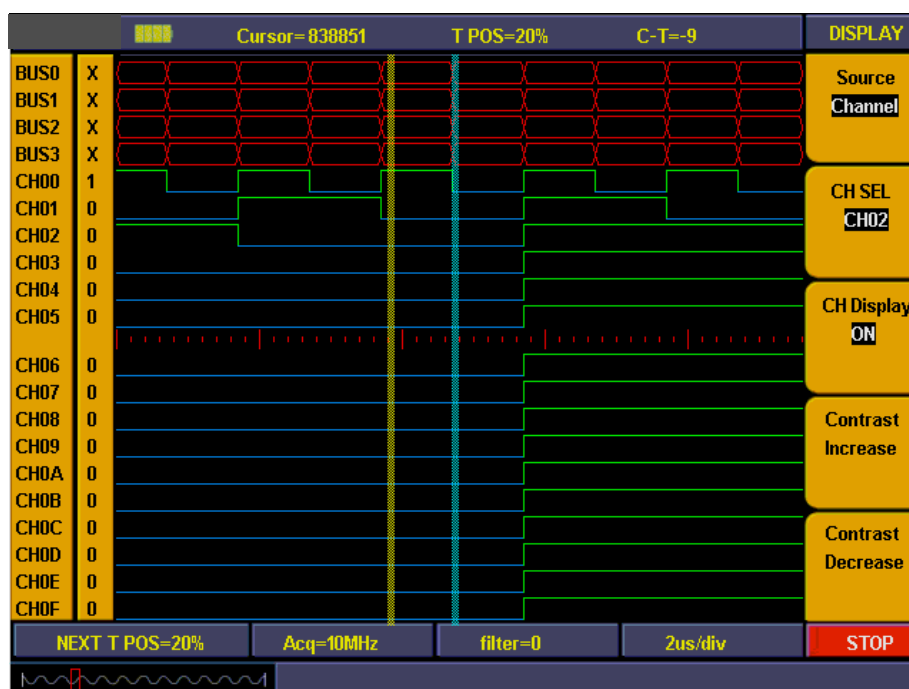

Fig.13
4. Press "**F3**" and set the signal sources as "**ON**". Repeat operation of steps 3.4 and set CH01, CH02 as "ON" and CH03-CH0F as "**OFF**". Refer to fig. 13